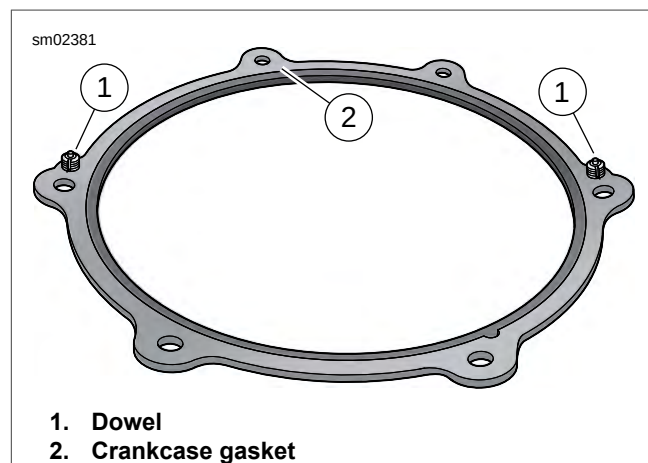

Figure 5-24. Crankcase Gasket
- See Figure 5-24. In next step, be sure dowels (1) in crankcase gasket (2) engage holes in crankcase.